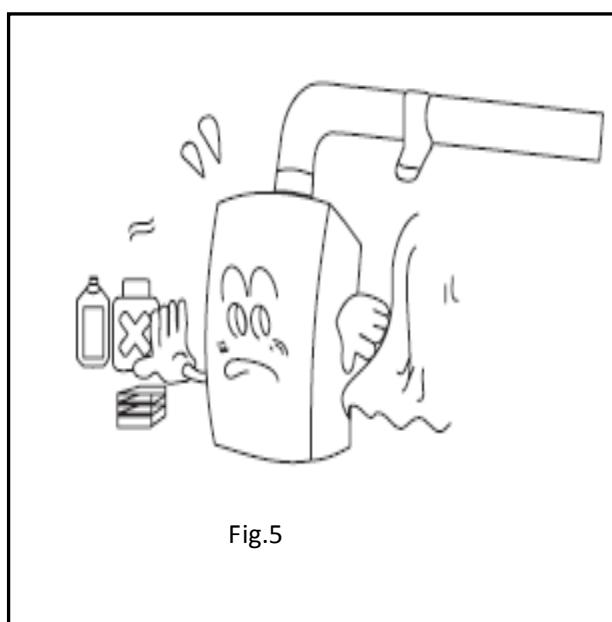

Fig.5
- Please don't install the heater in places where special chemicals are used, such as the laundries or factories etc., otherwise it may cause rusting, shorten the lifetime of the heater, or prevent normal working.(Fig. 5)